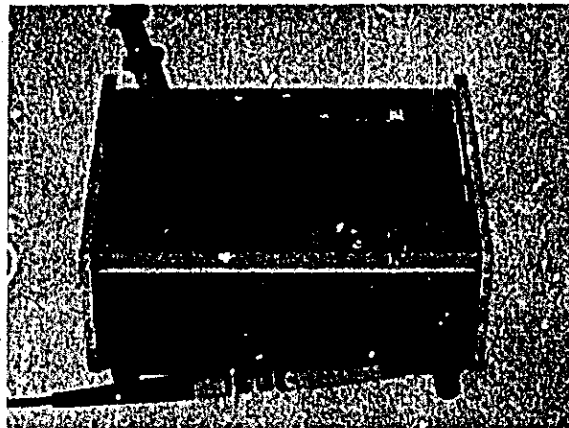

Figure 5-6. Contact Resistance Check (2)
- g. Set the 4436A controls to 119.9dB and connect Model 4328A between bottom terminal at OUTPUT and switch side of resistors (R3, R6, R9, R12, R16, R19, R23, R26, R31, R36, R40 and R44). See Figure 5-6.